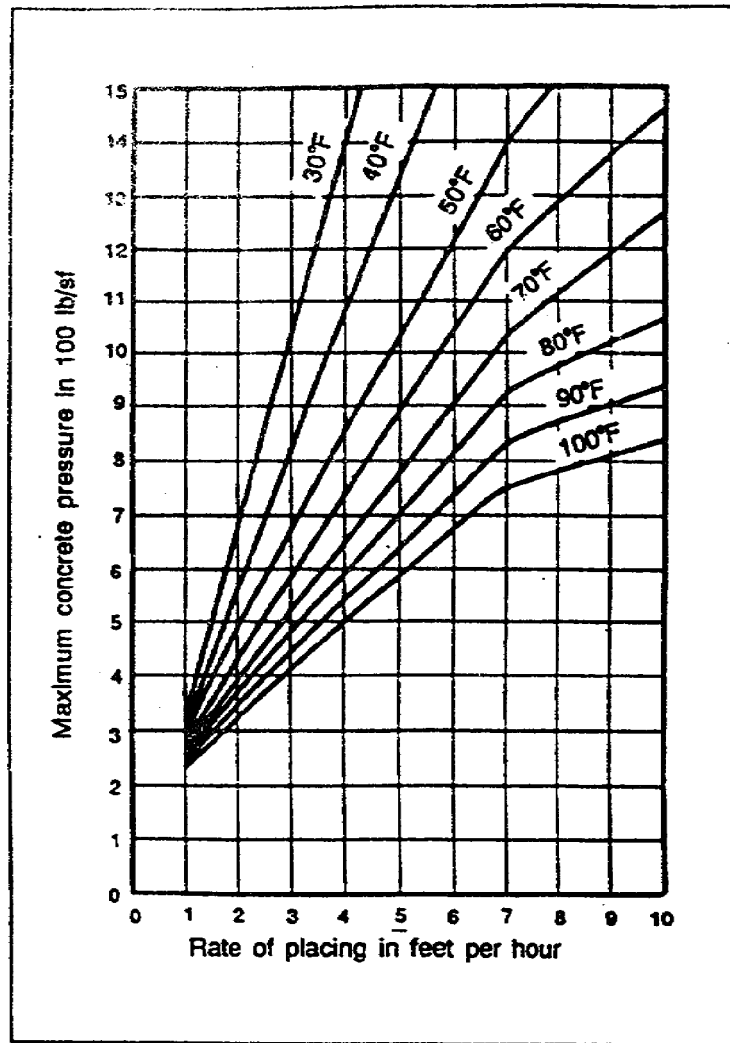

Figure 1-1. Maximum concrete pressure graph
Step 5. Determine the concrete placing temperature. You determine the concrete placing temperature by making a reasonable estimate of the placing temperature of the concrete. During the seasons, you will be considering the ambient (environmental) temperature. The optimum concrete temperatures are 55 degrees (°) to 73° Fahrenheit (F). If the temperature is too cold, heated aggregate and warm water are used to bring the concrete temperature up to an acceptable level. If the temperature is too hot, ice water may have to be used. The air temperature is normally 10° F above the concrete temperature. You will be performing this step as you proceed through step 6.
Step 6. Determine the maximum concrete pressure. You determine the maximum concrete pressure by using Figure 1-1, page 1-12. Be as accurate as possible when using the graph. The use of a straight edge is highly recommended. You must estimate the concrete temperature, (step 5) first. To determine the maximum concrete pressure, use Figure 1-1, and the following procedures:
NOTE: This formula will be used in place of Figure 1-1 when determining maximum concrete pressure throughout the subcourse and in the examination.